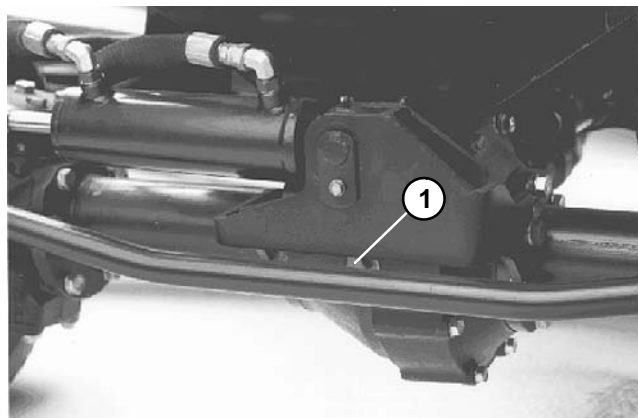

Figure 5
5. Remove axle support check/fill plug. Add enough lubricant to bring the level up to the bottom of the plug hole (Fig. 5).